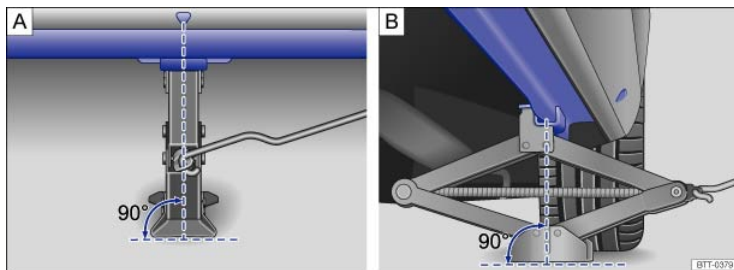

Fig. 200 Jack in position at the left rear lift point.
- Position the jack only at the described vehicle lift points. Before you raise your vehicle, always make sure the jack claw properly grips the vertical rib under the sill so that the jack does not slip off when you are raising the vehicle ⇒ Fig. 200.